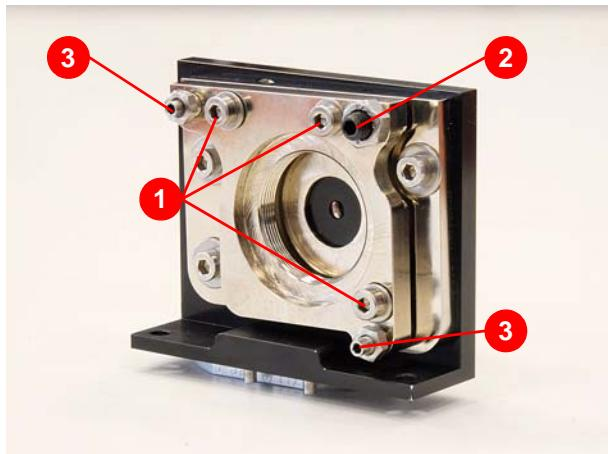

Figure 6.37 Basic setting for beam expansion mount
- To adjust, loosen screws (1) (Figure 6.37) and set the distance using the support screws (2 and 3).
- Tighten the screws (1) hand-tight again.